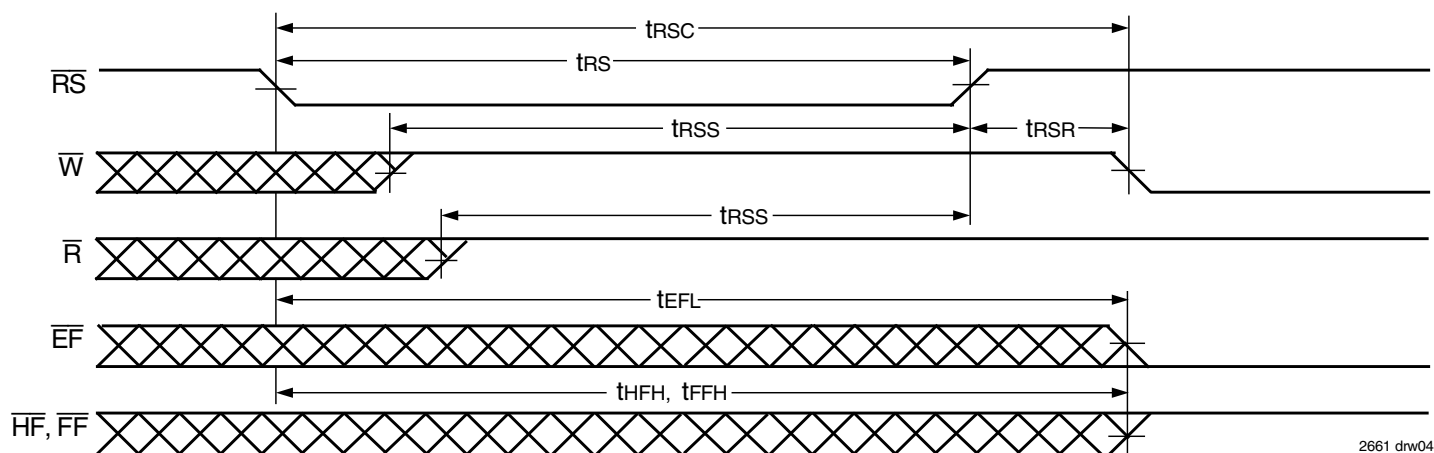

Figure 2. Reset
**RESET ( $\overline{RS}$ )** — Reset is accomplished whenever the Reset ( $\overline{RS}$ ) input is taken to a LOW state. During reset, both internal read and write pointers are set to the first location. A reset is required after power-up before a write operation can take place. **Both the Read Enable ( $\overline{R}$ ) and Write Enable ( $\overline{W}$ ) inputs must be in the HIGH state during the window shown in Figure 2 (i.e.  $t_{RSS}$  before the rising edge of  $\overline{RS}$ ) and should not change until  $t_{RSR}$  after the rising edge of  $\overline{RS}$ .**